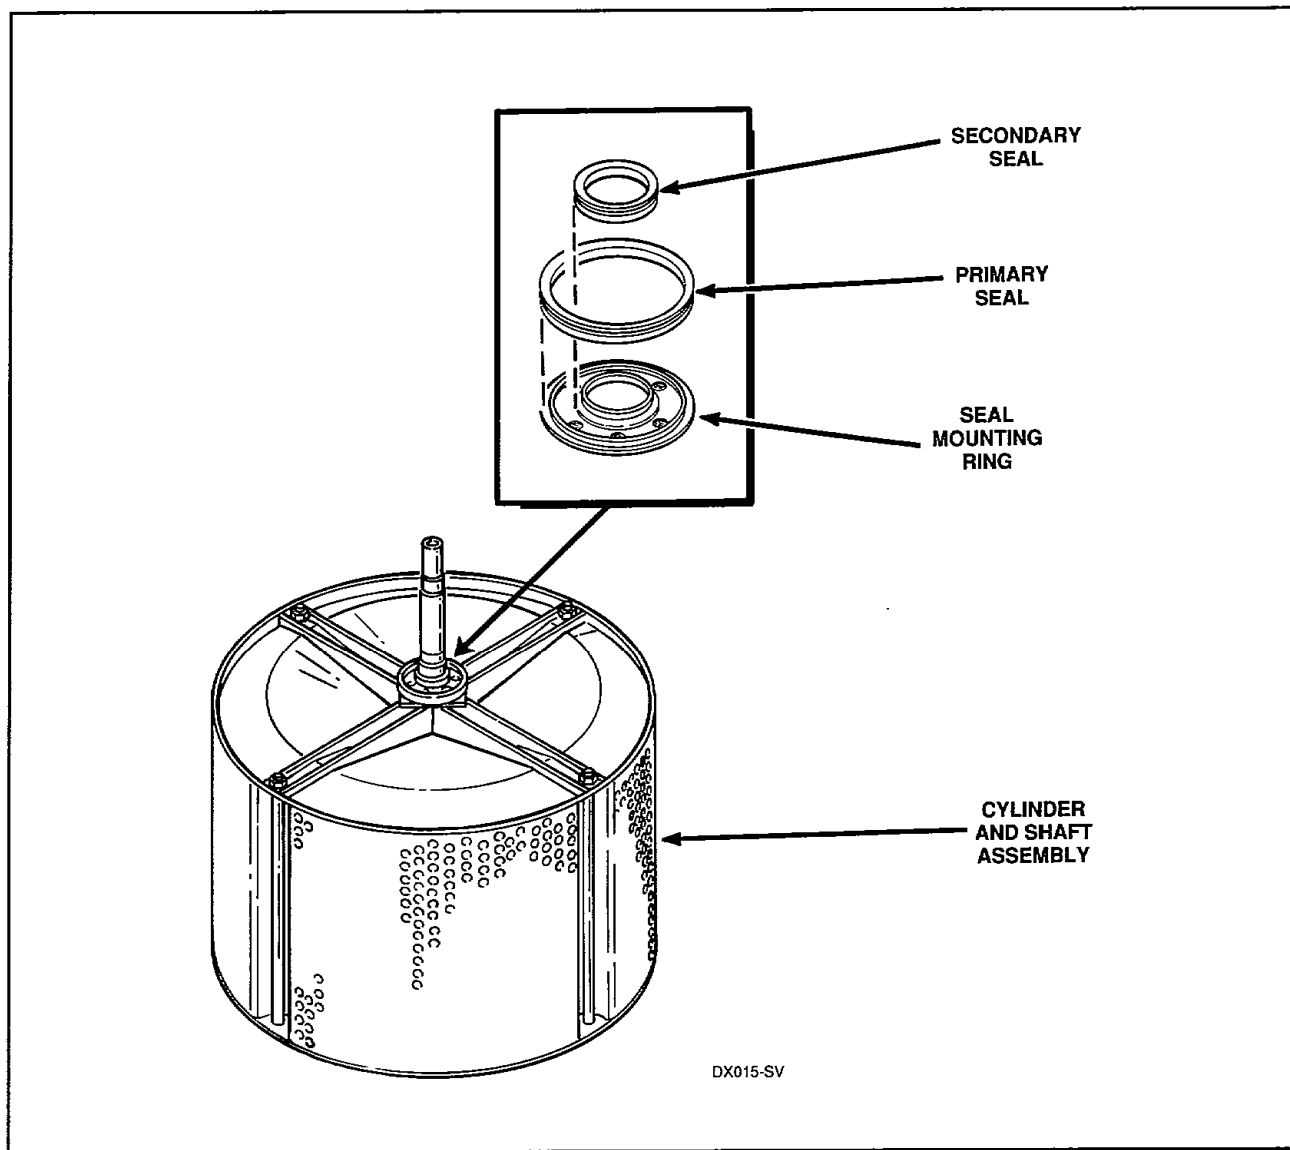

Figure 25
- c. Install the new primary and secondary seals onto the seal mounting ring located on the cylinder shaft, *Figure 25*.
The maximum water fill level can be increased by turning the adjusting screw **clockwise** or decreased by turning the screw **counterclockwise**, *Figure 25*.